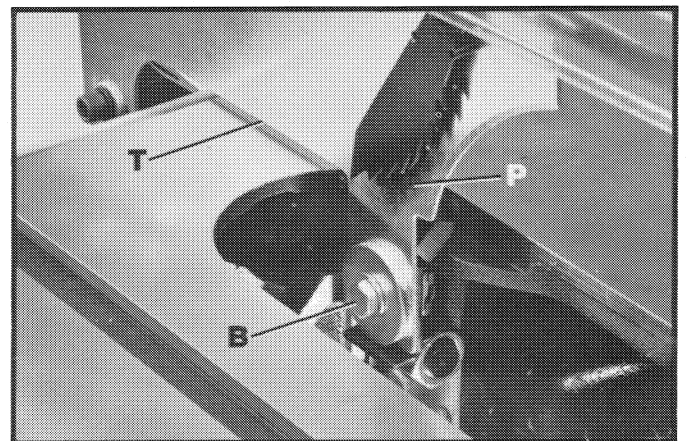

Fig. 13
12. Assemble splitter (P) Fig. 13, to inside splitter mounting bracket, as shown. Push splitter (P) down as far as possible making certain the bottom edge (T) of splitter is parallel with table surface and tighten screw (B).